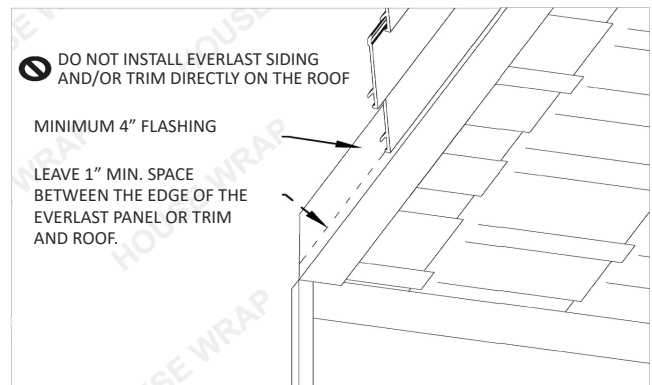

Figure 1
- When installing Everlast panels and trim along rooflines, Everlast recommends always planning 1" minimum space between the roof and the first course of Everlast (Figure 1).